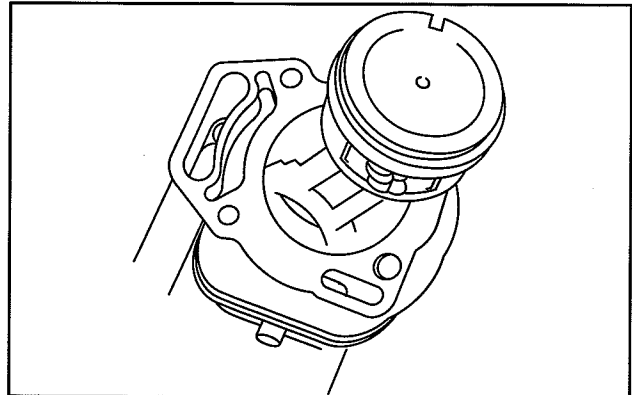

Fig. 3 – Remove Pistons And Connecting Rods
4. Remove No. 2 connecting rod cap and push connecting rod and piston assembly out of cylinder, Fig. 3.